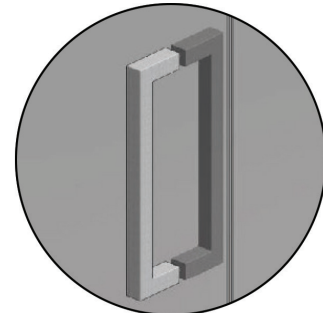

FIG 20.
- Install door handle with grub screws on outside of shower (FIG 20).